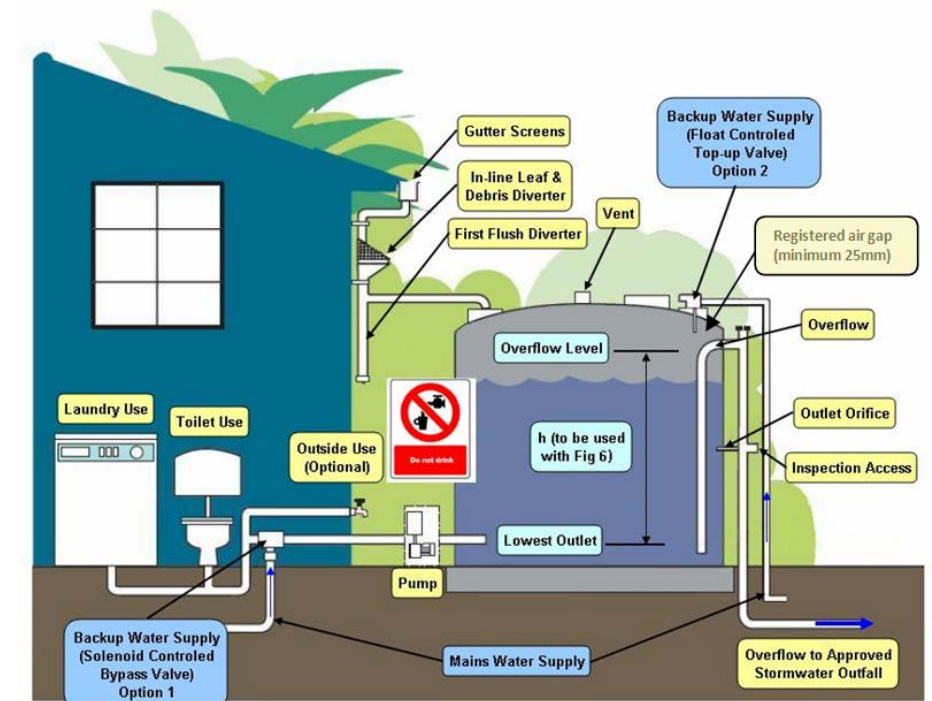

Figure 2: Above ground Rainwater Reuse and Detention System - typical components
- Figures 2 and 3 show typical components for above ground and below ground Rainwater Reuse and Detention Systems.